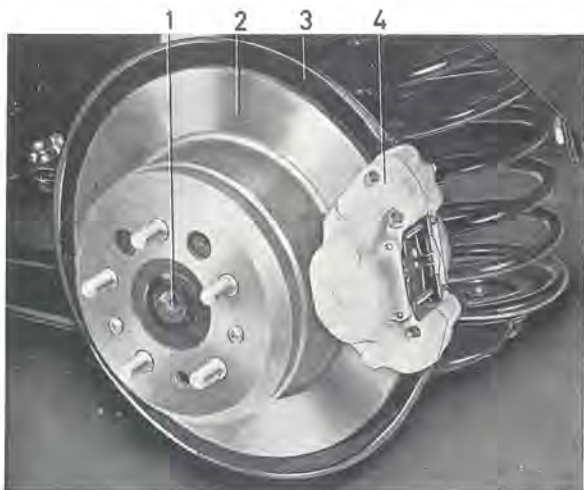

Fig. 5-9. Brake components, rear wheel
Fig. 5-9 shows the location of the brake components on the rear wheels. The brake disc (2) is of cast iron and is fixed to the drive shaft with which it rotates. The cover plate (3) prevents dirt from reaching the disc.